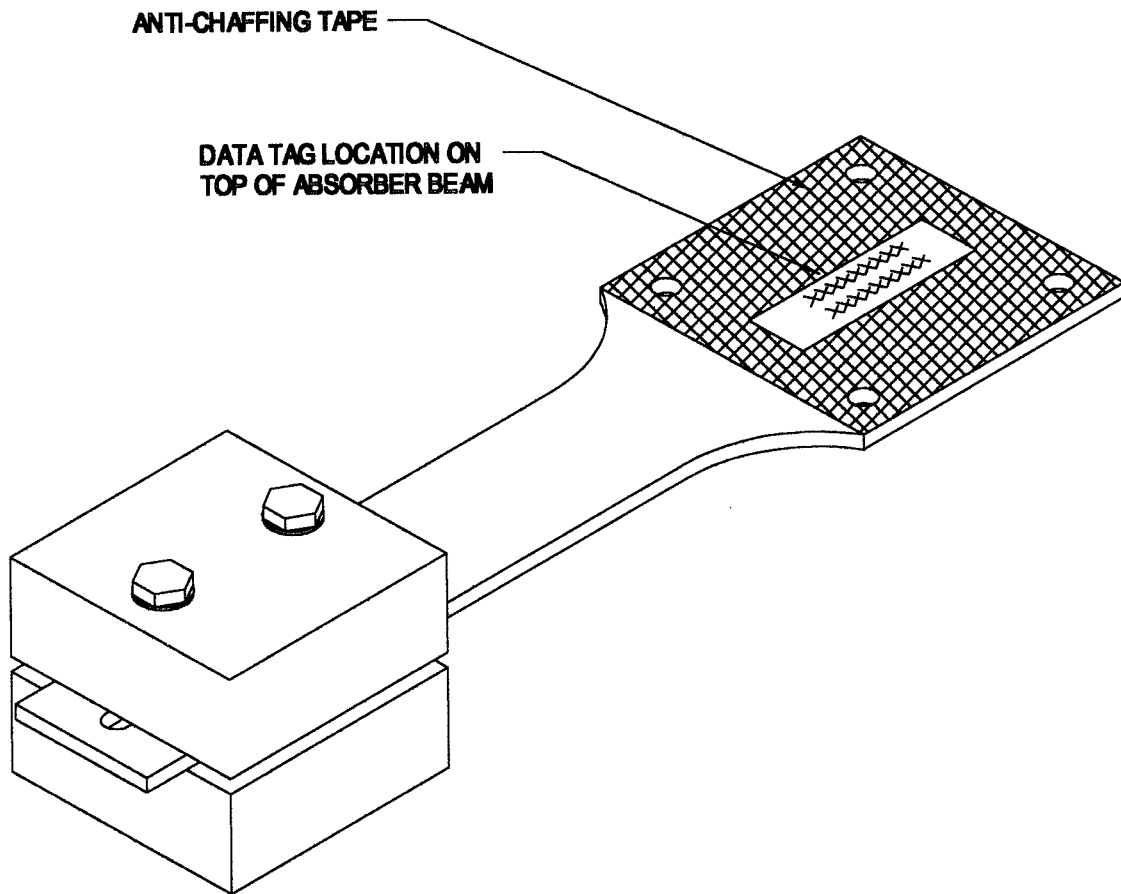

FIGURE 1. DATA TAG LOCATION
- 5.1.3. Clean the area for the data tag on the beam with isopropyl alcohol and install the data tag (See Figure 1).